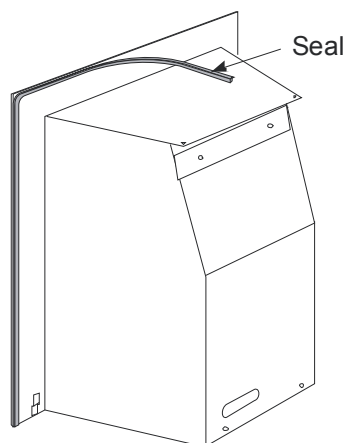

Figure 53
3. Apply the foam sealing strip all round the rear edge of the firebox flange by removing the protective backing paper (see **Figure 53**).